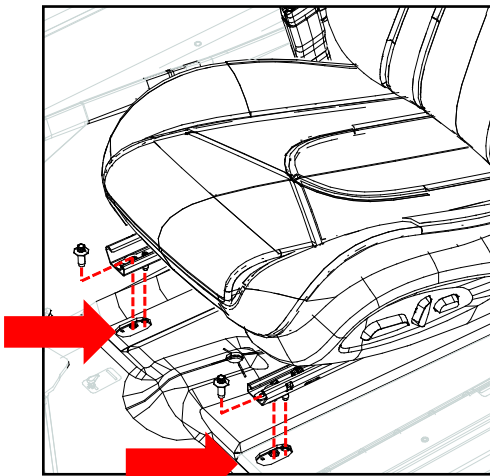

fig. 1a
1) Loosen the front and rear driver seat mounts, install torque $50\text{Nm} \pm 5.0\text{ Nm}$ (fig. 1a, 1b) apply threadlocker to the bolts (such as Loctite 242 or equivalent fig.1c).